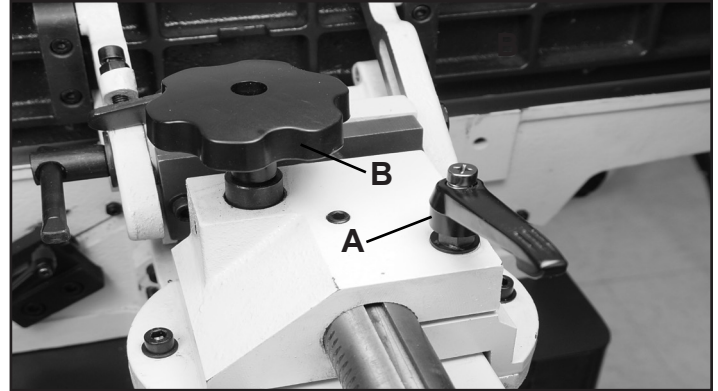

FIG. 23
1. To move the fence across the table, loosen the lock lever (A), then turn the knob (B) until the fence is in the desired position on the table and then retighten the lock lever. FIG. 23.